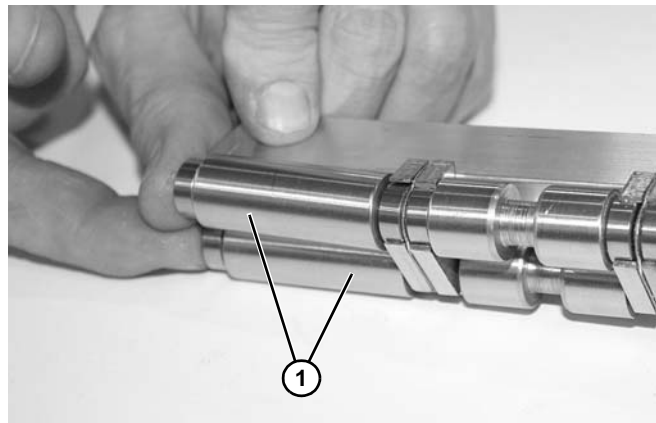

Figure 109
7. Remove spindles (Figure 109, item 1).